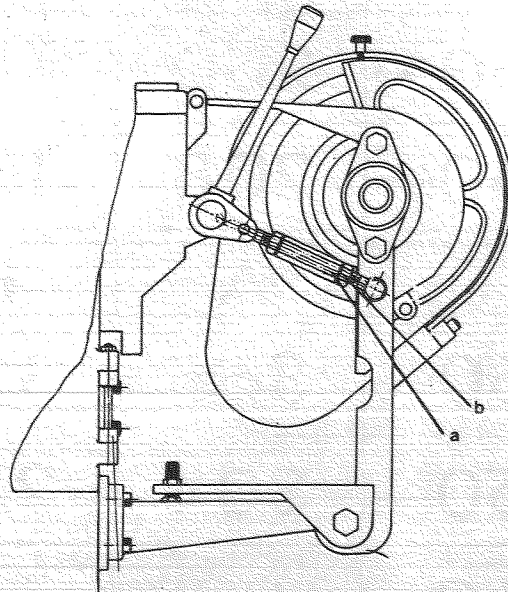

FIG. 3
The machine is equipped with 2 belts, one from the motor to the upper rear pulley, and one from the upper rear pulley to the spindle pulley. The tension of the belts has been factory adjusted. It is advisable to check the tension before starting the machine. The belts should depress about  $\frac{1}{2}$  inch by normal finger pressure. Tight belts will ruin the bearings. Adjust the tension, if necessary. An adjusting link mechanism is provided for this purpose. See Fig. 3. If the belt is loose, loosen bolt (C) and turn (A) until the desired tension is set. Then tight hexagon bolt (C) in position.